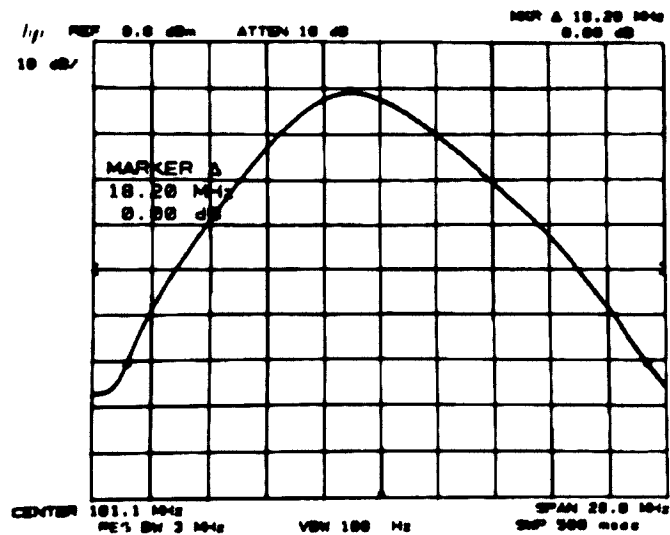

Figure 2-6. 60 dB Bandwidth Measurement
4. Press **MARKER** **NORMAL** and position marker at peak of signal trace. Press **MARKER** **Δ** and position movable marker 60 dB down from the stationary marker on the positive-going edge of the signal trace (the **MARKER Δ** amplitude readout should be $-60.00 \text{ dB} \pm 1.00 \text{ dB}$). It may be necessary to press **SWEEP** **CONT** and adjust **CENTER FREQUENCY** so that both 60 dB points are displayed. (See Figure 2-6.)
6. Read the 60 dB bandwidth for the 3 MHz resolution bandwidth setting from the **MARKER Δ** frequency readout (Figure 2-6) and record the value in Table 2-6.